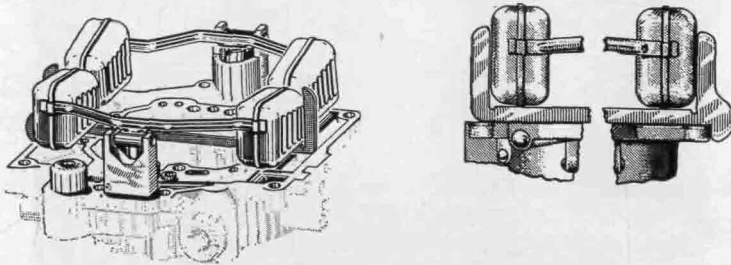

FIG. 10-35. Horizontal and vertical float adjustments. (Oldsmobile Division of General Motors Corporation)
- a. Horizontal float adjustment is made by turning cover upside down and positioning special gauge as shown in Fig. 10-35.
- b. Vertical float adjustment is made by bending center parts of float arms until floats just clear horizontal part of gauge (Fig. 10-35).